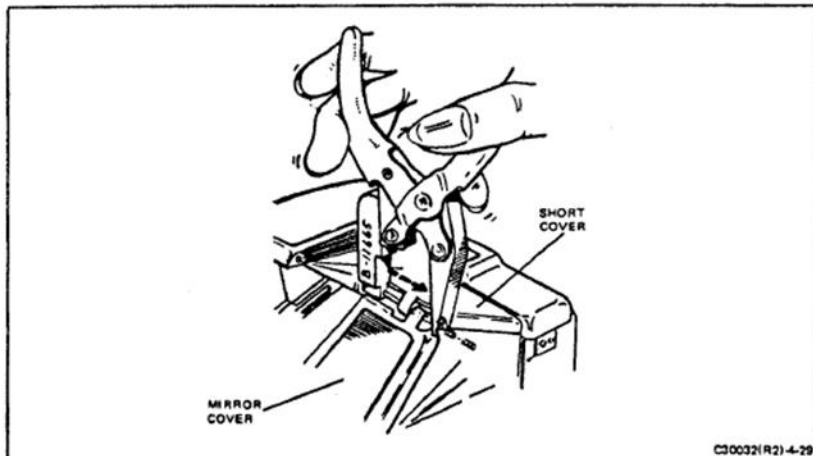

FIGURE 4-29 REMOVING SHORT-COVER-TO-MIRROR-COVER HINGE PINS
- a. Using Special Tool #11665, remove the mirror-cover to short-cover hinge pins (Figure 4-29).
- b. Align the short cover with the mirror cover hinges and secure the two by replacing the two hinge pins (Figure 4-29).